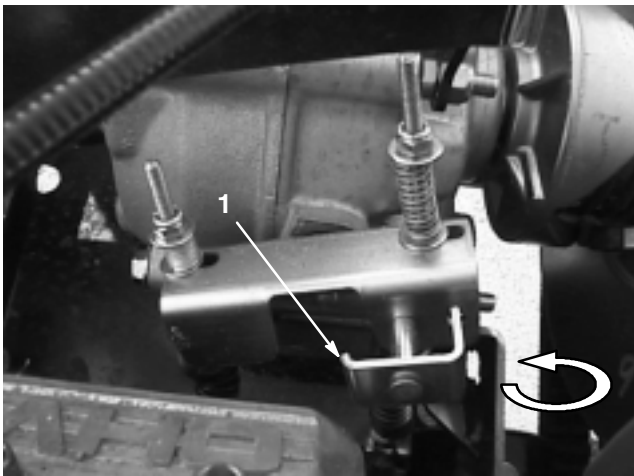

Figure 25
1. To lock the transaxle in neutral, rotate the locking pin 180 degrees on the shift block (Fig. 25).